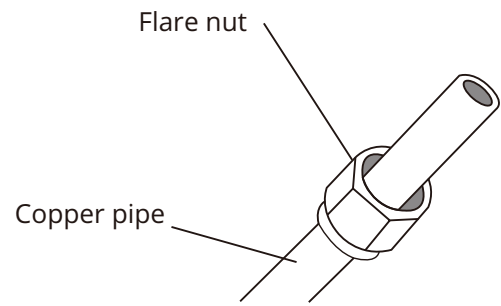

Fig 5.3
- Place flare nuts on both ends of pipe. Make sure they are facing in the right direction, because you can't put them on or change their direction after flaring. See **Fig. 5.3**.